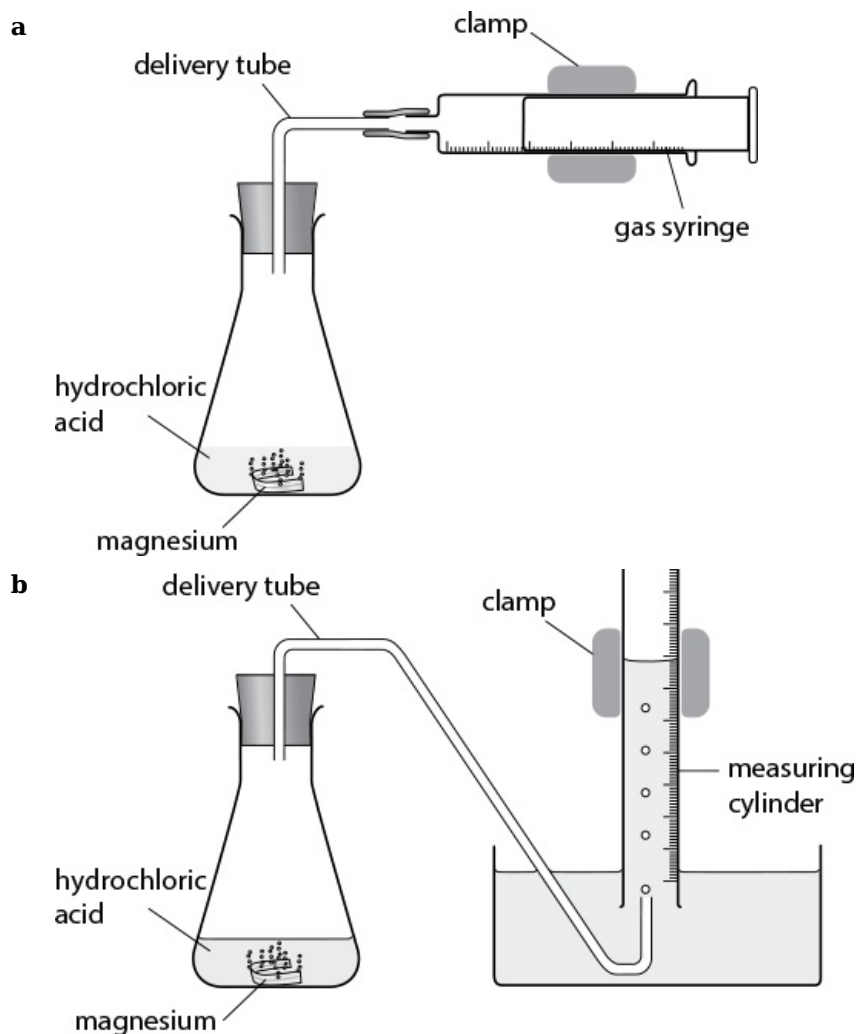

Figure 1.2: Different ways of collecting gases
- 5 Depending on which gas-collecting system you are going to use, set up your apparatus as shown in Figure 1.2.